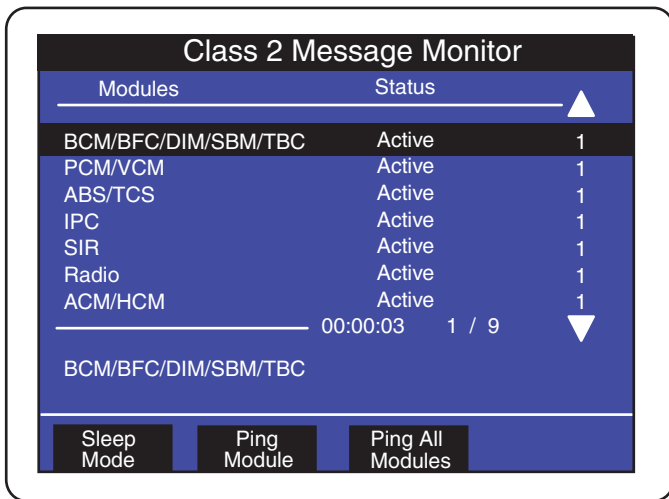

FIGURE 14–26 Modules used in a General Motors vehicle can be “pinged” using a Tech 2 scan tool.
STEP 2 Perform module status test. Use a factory level scan tool or an aftermarket scan tool equipped with enhanced software that allows OE-like functions. Check if the components or systems can be operated through the scan tool. ● **SEE FIGURE 14–25.**